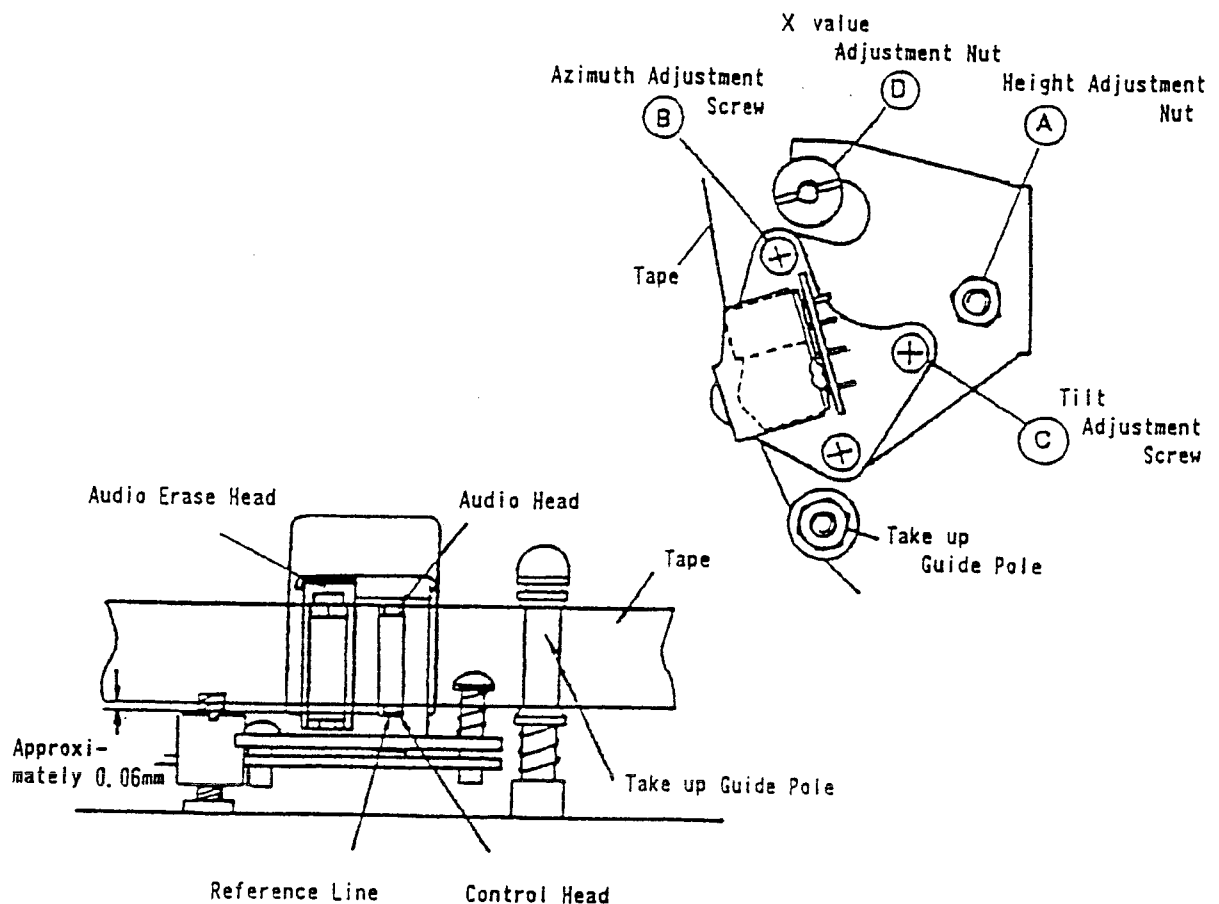

Fig. 2-7
2. Adjust the height of the edge of the audio track on the audio control head by using the height adjustment nut (A) and the tilt adjustment screw (C) so that the tape transport is smooth at the take-up guide pole. Align the audio control head height. (Refer to Fig. 2-7.)
2. Confirm that the tape running between the take-up guide roller and the audio control erase head has no slack. If the tape has slack, take it up by turning the tilt adjustment screw ⑤. (Refer to Fig. 2-7.) Then readjust GUIDE ROLLER HEIGHT in section 2-2 and the X value in section 2-4.
3. After confirming on the oscilloscope that a 1 kHz audio signal is being output by playing back F6-A test tape, adjust the height adjustment nut ⑥ so that the AC voltmeter's reading is brought to its maximum level. (Refer to Fig. 2-7.)
4. Adjust the azimuth adjustment screw ⑦ so that the AC voltmeter's reading is brought to its maximum level. (Refer to Fig. 2-7.)
1. After confirming on the oscilloscope that an audio signal is being output by playing back F6-N test tape, adjust the azimuth adjustment screw ④ so that the AC voltmeter's reading or oscilloscope waveform is brought to its maximum level (Refer to Fig. 2-7).
Note: Fix the screw ④ with lock paint after readjustment (Refer to Fig. 2-7).